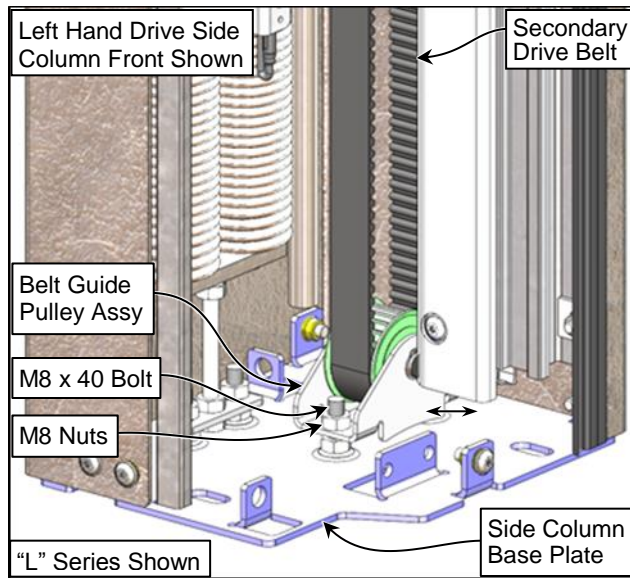
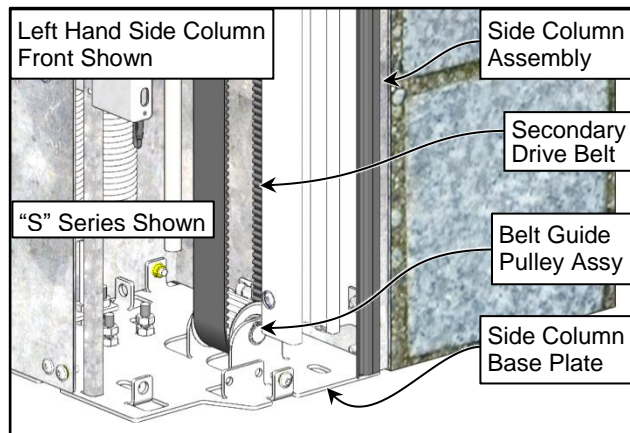

Figure 33
Figure 34
- Inspect the entire length of both secondary drive belts. The belts should not be frayed, cracked, worn, or damaged. Also check for any damaged or missing teeth. Replace the secondary drive belt(s) if necessary. (See Figure 33 & Figure 34)